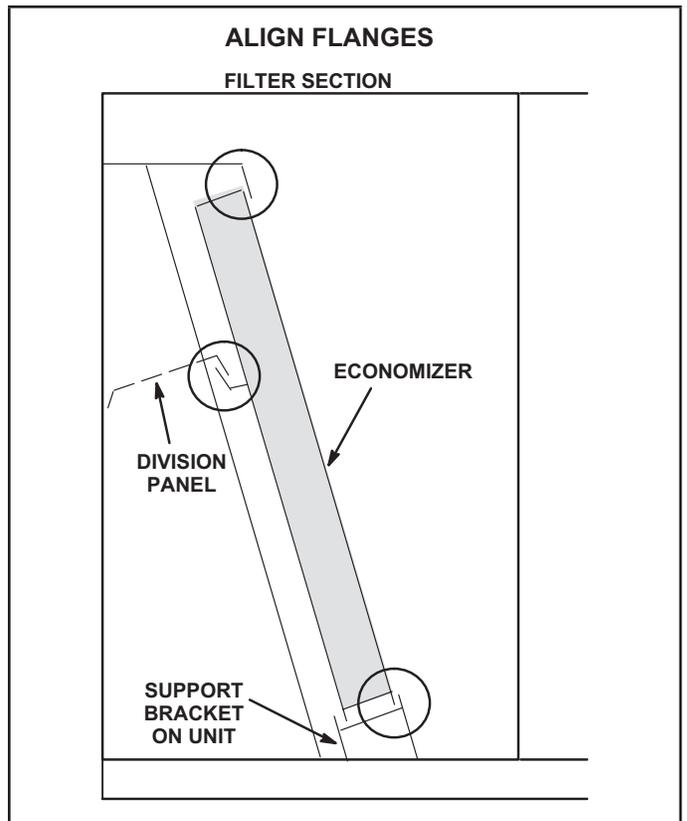

FIGURE 24
- 3 - Align bottom of economizer with economizer support bracket and slide economizer into unit. Make sure the flanges align as shown in FIGURE 24.